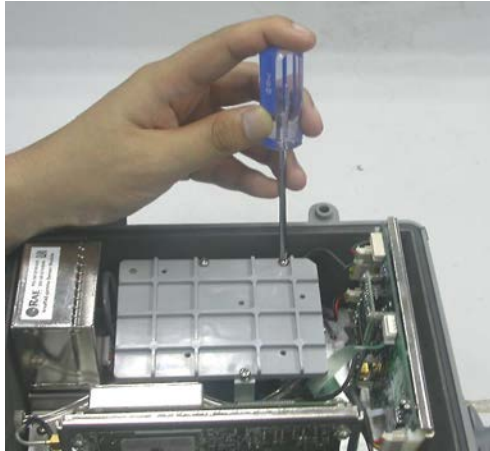

Figure 6-2 Gas Plate of AreaRAE
4. Refer to Figures 6-2 and 6-3: Carefully unscrew the three screws that hold down the gas plate to the analog PCB and sensors. Remove the gas plate.
3. Refer to Figures 6-2 and 6-3: Carefully unscrew the three screws that hold down the gas plate to the analog PCB and sensors. Remove the gas plate.
9. Refer to Figures 6-2 and 6-3, install the gas plate and tighten the four screws to hold down the sensors.